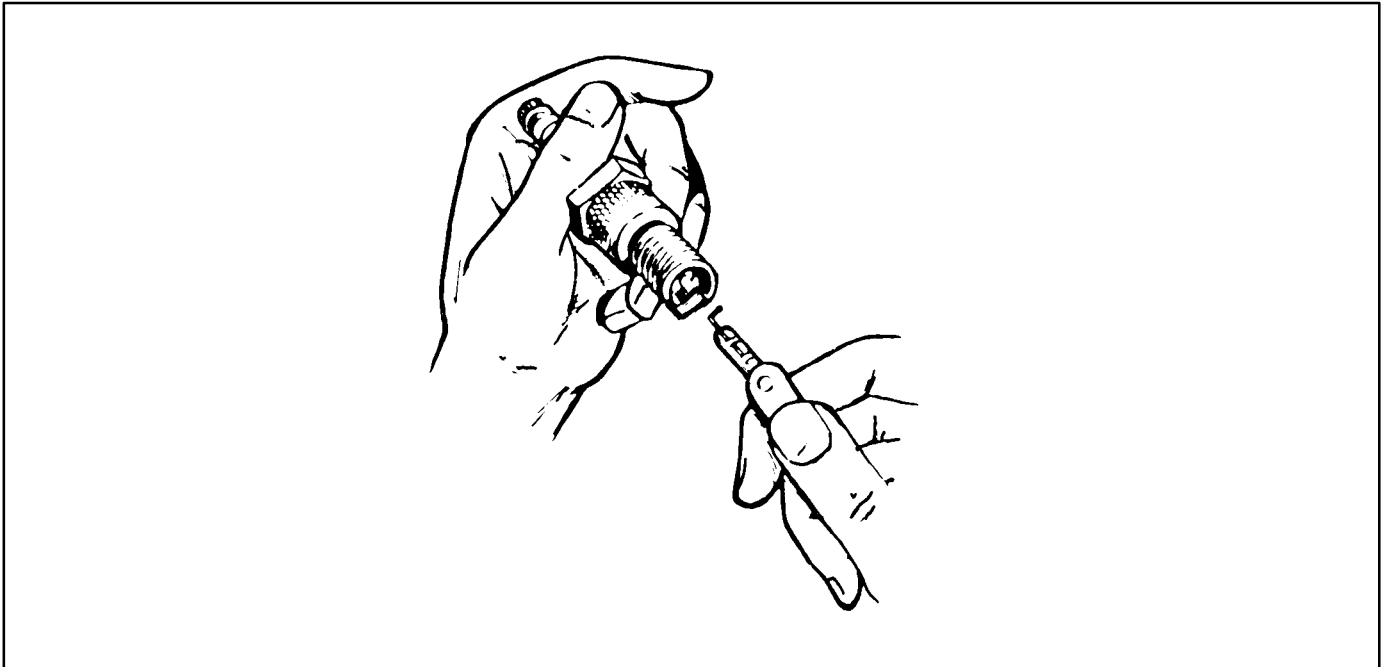

FIGURE 7-7. GAPPING SPARK PLUGS
- Check each spark plug gap and reset as necessary to 0.025 inches (Figure 7-7).